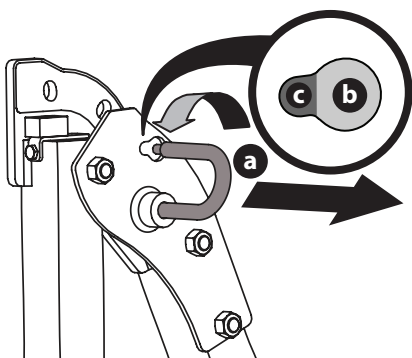

Fig. 24
1. To change the position of the ROPS, pull slightly up/push forward on the upper ROPS to relieve any tension on the locking pin (a) and rotate the locking pin (a) from the LOCKED (b) position into the ADJUSTMENT (c) position. Repeat the procedure for the locking pin on the opposite side (Fig. 24).